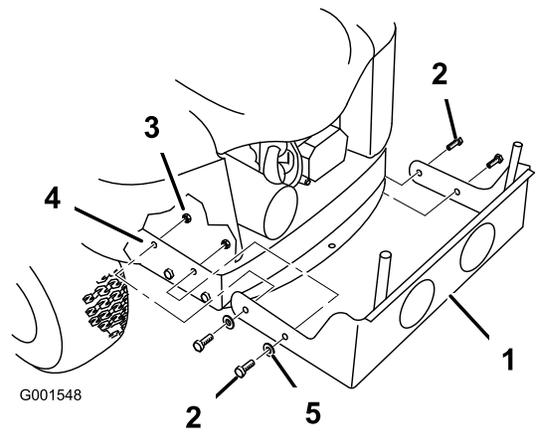

Figure 5
2. Align the holes in the rear frame and the bagger mounting bracket (Figure 5).